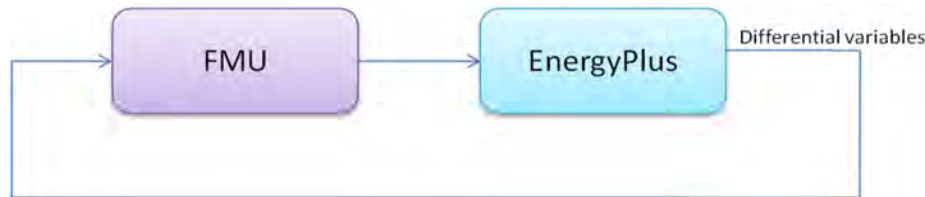

Figure 7: System with one FMU linked to EnergyPlus.
- Each FMU is linked to EnergyPlus only through a differential variable in EnergyPlus (see Figure 7 for one FMU).